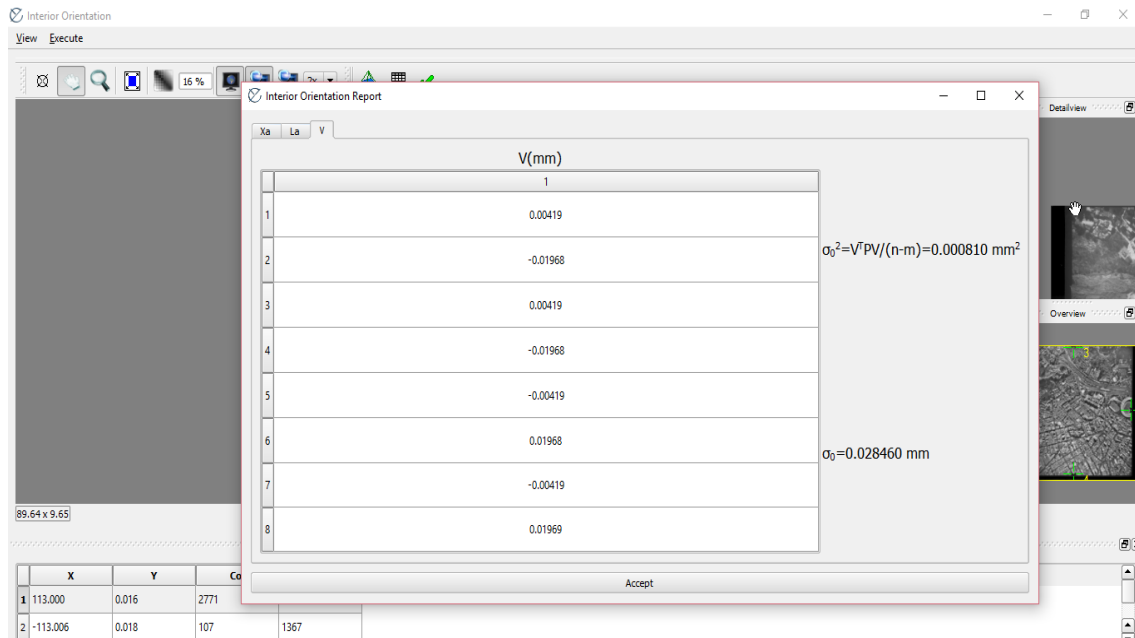

Figure 10 – Results of the IO
- III. Figure 10 shows the residuals in millimeters.